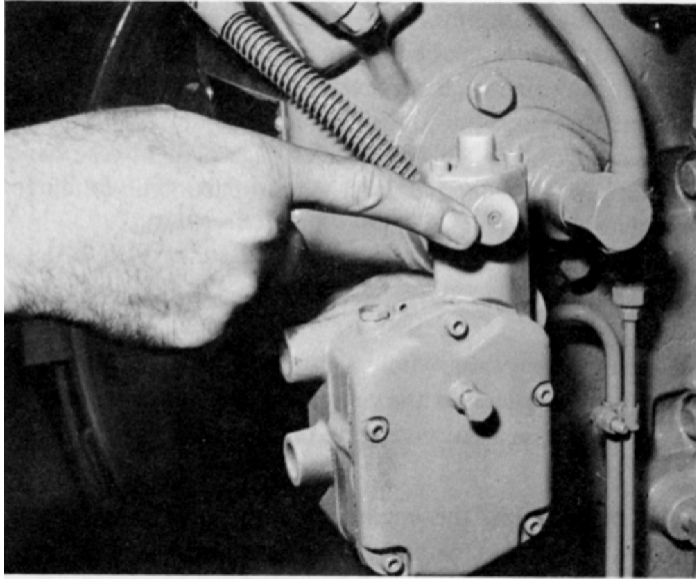

FIG. 8. ENGINE OVERSPEED GOVERNOR AND RESET.
ENGINE OVERSPEED SHUTDOWN (See Fig. 8)
8. Assure the diesel-engine overspeed device is reset (see Fig. 8).